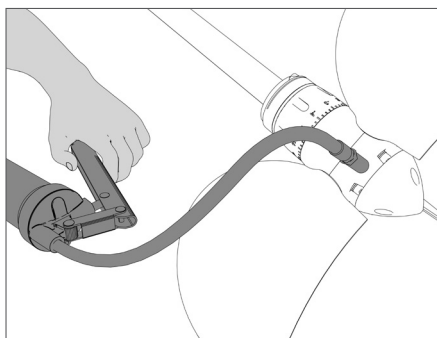

FIG. 45 | Grease pumping
- Apply EWOL grease that can be ordered on the website www.ewoltech.com or www.ewol-propellers.com (from the USA) using a grease pump (**Fig. 45**), until it leaks from the blade housings or the MPS ring nut.